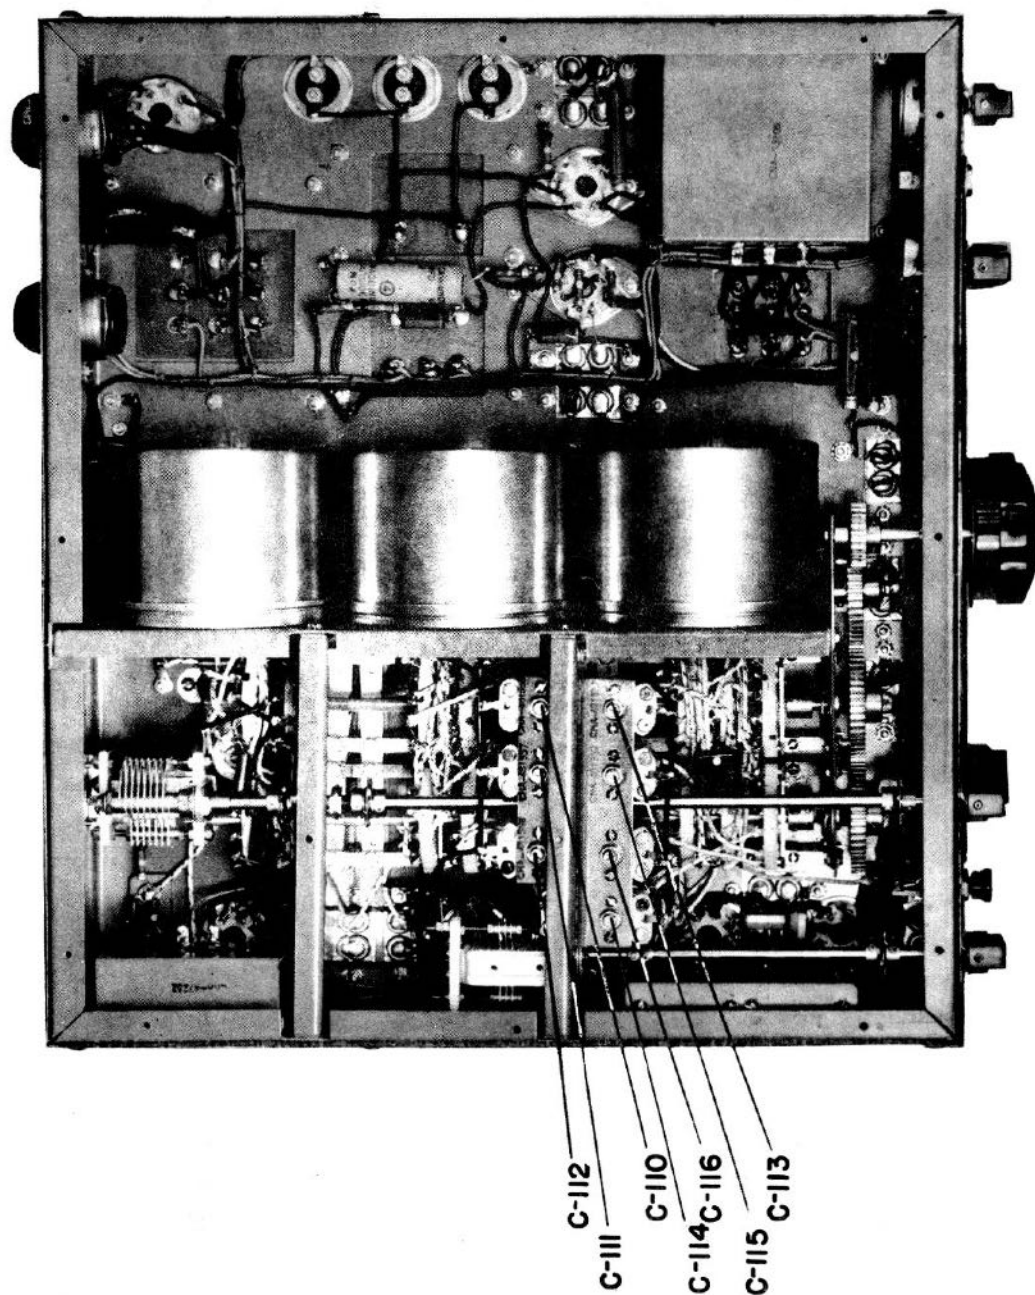

Figure 5-6 - Trimmer Capacitor Locations
- (1) Output Meter, Navy Type-22195 or the equivalent.
- (2) Standard Dummy Antenna, Navy Type-66017 or the equivalent.
- (3) Output Load Resistor, 600 ohms, 2 watts.
a. Before proceeding with the alignment of the CNA-46161 Radio Receiver, the receiver must be removed from the mounting base and the bottom plate should then be removed. The various trimmer capacitors are mounted directly over the band switch. In order to adjust any of these capacitors it is necessary to loosen the lock nut located on the capacitor shaft bushing; this lock nut should, of course, be tightened again after adjustment has been made. An ordinary metal screw driver having a blade width of one-eighth inch is satisfactory for the trimmer adjustment. The trimmer capacitor positions are shown in Figure 5-6.